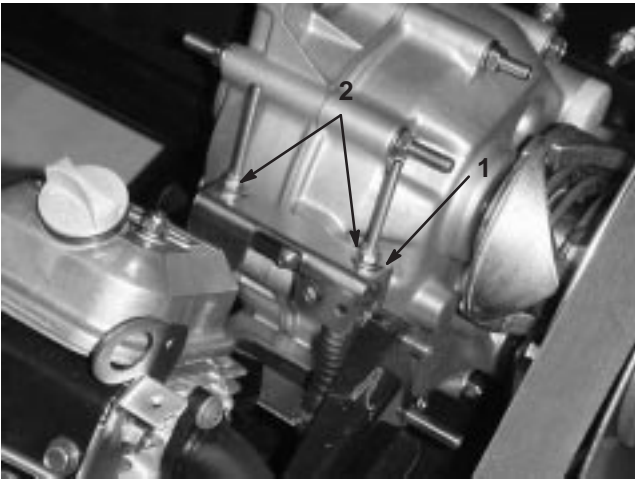

Figure 25
When performing routine maintenance and/or engine diagnostics, the transaxle must be shifted into neutral (Fig. 25). The vehicle has a neutral position on the shift lever, which controls the neutral in the transaxle. The following steps should be taken to make sure that the neutral shift lever operates the transaxle neutral correctly:
2. Set the neutral bracket on the transaxle to the neutral position (level) (Fig. 25).
3. Tighten one of the locknuts (Fig. 25) just enough to take the slack out of the shift cable.